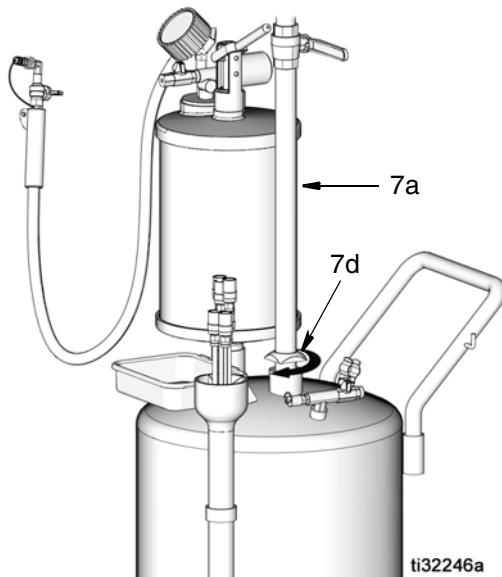

FIG. 12
9. Insert the drain tube (7a) through threaded opening on top of tank and turn hand wheel (7d) in a clockwise direction to tighten (FIG. 12).